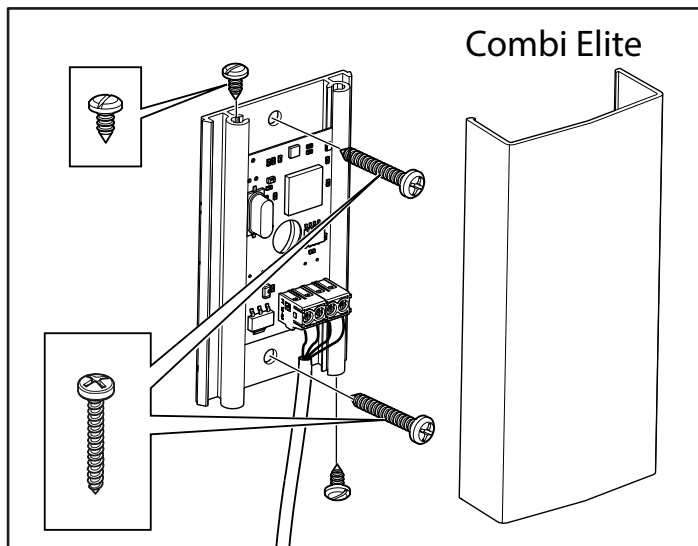

Fig 16: Installing the humidity- and temperature sensor. The cable inside the sauna must be heat resistant. Connect the sensor cable (see Figure 19).
14. Install the sensor on the wall see Figure 16. The thermistor wire may also be passed through the wall. Seal any holes in the wall behind the sensor, see figure 17. The thermistor wire may be extended outside the sauna using low voltage wire (2-, 4-lead).